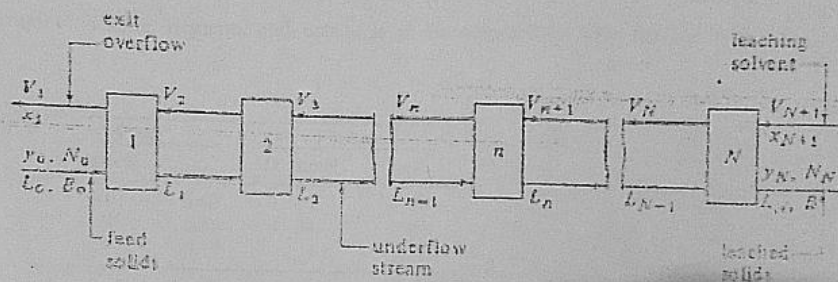

Figure 1.0
- (i) If the concentration of a solute in the organic phase is 0.05 mol/L and its concentration in the aqueous phase is 0.0001 mol/cm³, calculate the distribution ratio (D) for the solute in this system.
- (ii) If the distribution ratio (D) for nickel is 20 and the distribution ratio for silver is 200, determine the separation factor (γ) for the system.
- (b) Consider the countercurrent multistage leaching process shown in Figure 1.0. The ideal stages are numbered in the direction of the solids or underflow stream.
NB: The values from $\frac{(n+1) - (n_m+1)}{n+2}$ is gotten from the graph in Fig 1.0,